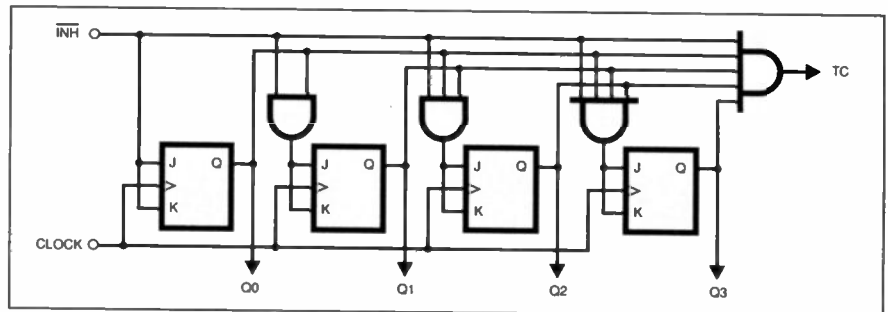
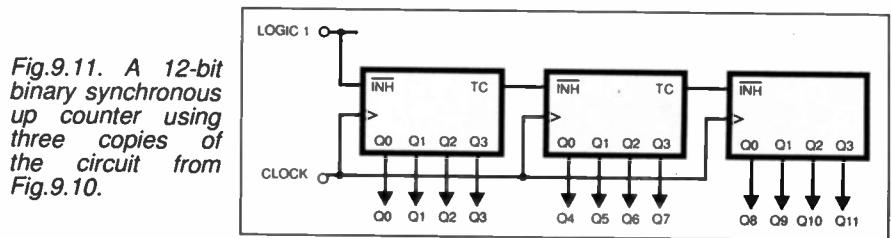

Fig.9.10. Cascadable 4-bit binary synchronous up counter.
Fig.9.11. A 12-bit binary synchronous up counter using three copies of the circuit from Fig.9.10.
A 4-bit counter with an inhibit (\overline{INH}) input and a terminal count (TC) output is shown in Fig.9.10. (Note that the terminal count is also called the carry-out on some counters). These four-bit counter blocks can be cascaded to form larger counters as shown in Fig.9.11.
The 40163 and 74163 i.c.s are examples of 4-bit cascadable synchronous counters. The inhibit circuitry in these circuits is slightly different from that in Fig.9.10. These chips have two enable inputs, both of which must be high for the counter to count. One of the enables connects directly to the TC logic. The two inputs are ANDed together to provide control of the count.